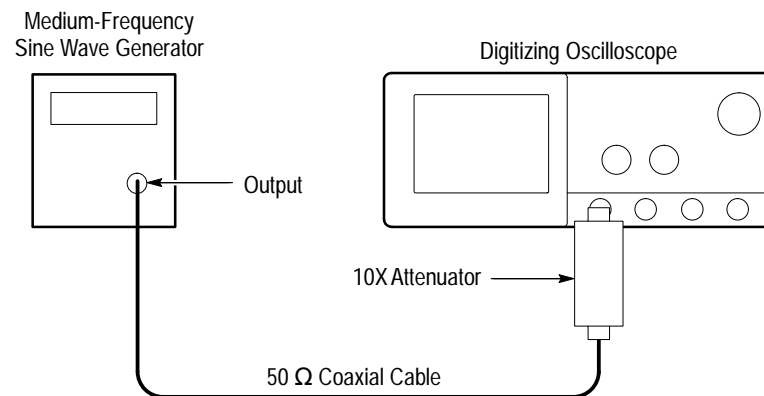

Figure 1–14: Initial Test Hookup
- c. *Hook up the test-signal source:* Connect the output of a medium-frequency leveled sine wave generator (Item 25) to CH 1. Do this through a 50 Ω precision coaxial cable, followed by a 10X attenuator. See Figure 1–14.
- c. *Set upper and lower limits that ensure triggering:* See Figure 1–15.